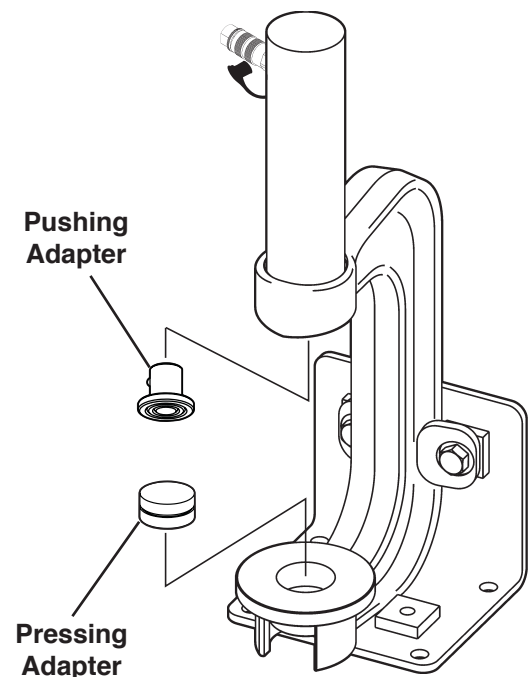

Figure 2
1. Choose the appropriate pressing adapter for the job and place it into the adapter base. See Figure 2.
2. Choose the appropriate pushing adapter and push the ball-detented end into the threaded hole of the cylinder's piston. See Figure 2.